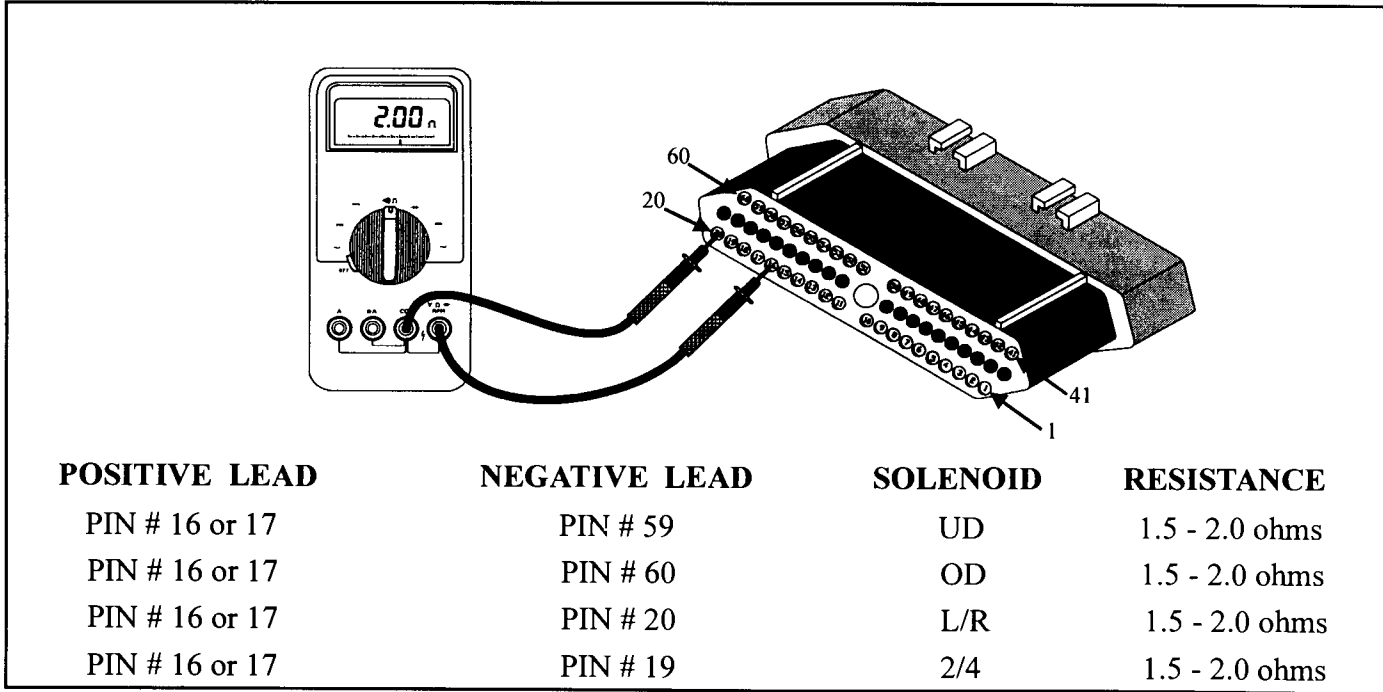

Figure 51
- Unplug the TCM's 60 way connector. Using a DVOM check the resistance of all four solenoid circuits by placing the positive lead onto pin 16 or 17 as seen in Figure 51. With the negative lead, carefully touch pins 19, 20, 59 and 60 one at a time. Each solenoid should measure approximately 1.5 to 2.0 ohms. If the solenoid providing the code reads considerably higher or lower from the other three solenoids, change the solenoid body. If all the readings are the same, wiggle the solenoid wires with the meter still attached and see if the readings behave erratic. If so, the solenoid connector is bad and will need to be replaced with part 4419476.